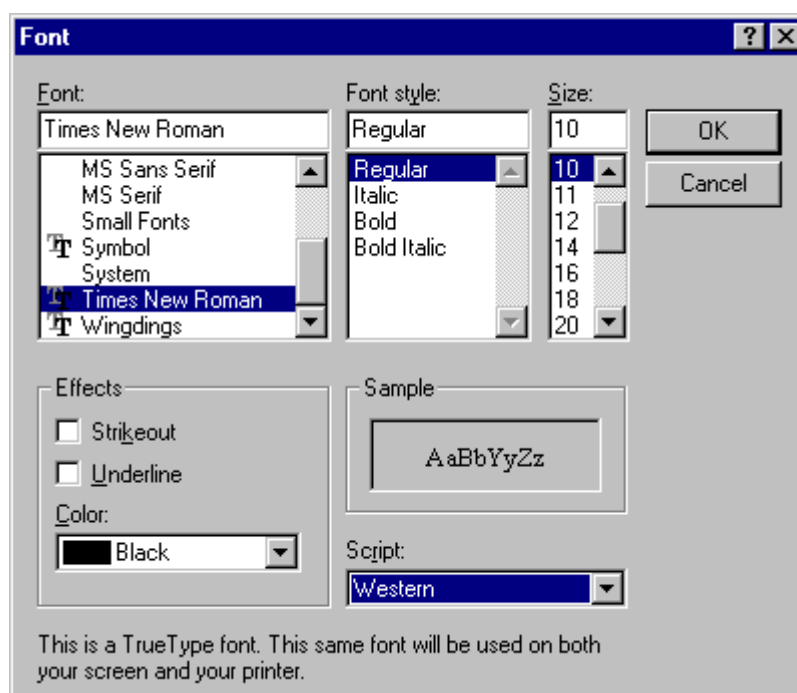

Fig. 23-3 [Font] Dialog Box
1. Select [Option] – [Font] – [Edit Window], or [Option] – [Font] – [Preview Window]. The dialog box shown in Fig. 23-3 appears.